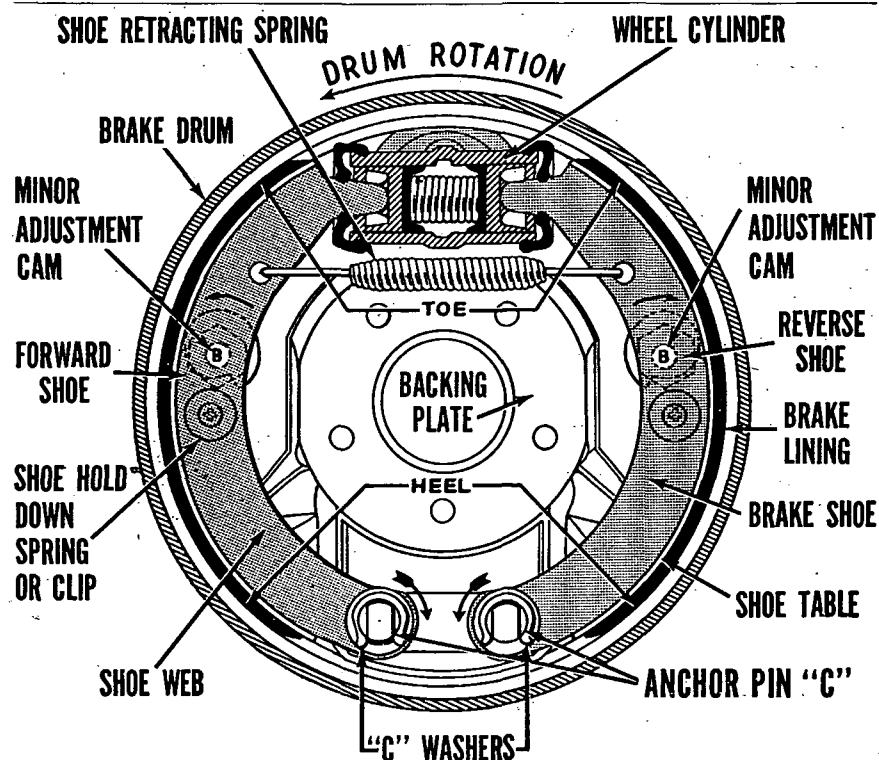
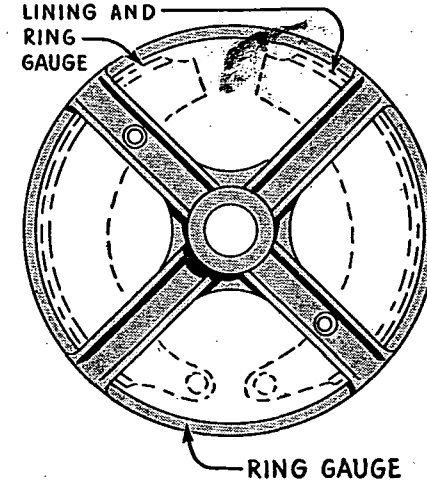

Figure 20
Figure 21
1. Cam adjustments are provided on each brake shoe to compensate for lining wear. Jack up car and turn cam B (Fig. 20), outward at the top, away from the center of the axle, until the lining contacts the drum sufficiently to stop the wheel from spinning. Back off on cam until lining clears drum and wheel just turns freely. The adjusting cams are held in position by friction springs on some cars and locking is not required. A lock nut is used on other models.
1. The eccentric mounting of the two anchor pins C (Fig. 20), allows recentering of the brake shoes. If there are no inspection holes in the brake drums they should be removed and a ring gauge used (Fig. 21), or a brake gauge.
2. Place gauge in position and insert a .005-inch feeler between gauge and lining about 1 inch from the lower end of the shoe. Leave feeler gauge in place and turn eccentric anchor C (Fig. 20), until gauge is gripped.
3. At a point 1 inch from upper end of lining insert a .010-inch feeler gauge. If this cannot be done turn cam B (Fig. 20), a little and try again. Correct adjustment is obtained when the .010-inch gauge just enters at the toe or upper end of lining and the .005-inch at the lower end. Both shoes of each wheel are adjusted in this manner.
1. Turn anchor pins C (Fig. 20), and cams B (Fig. 20), until shoes are as far as possible away from drums.